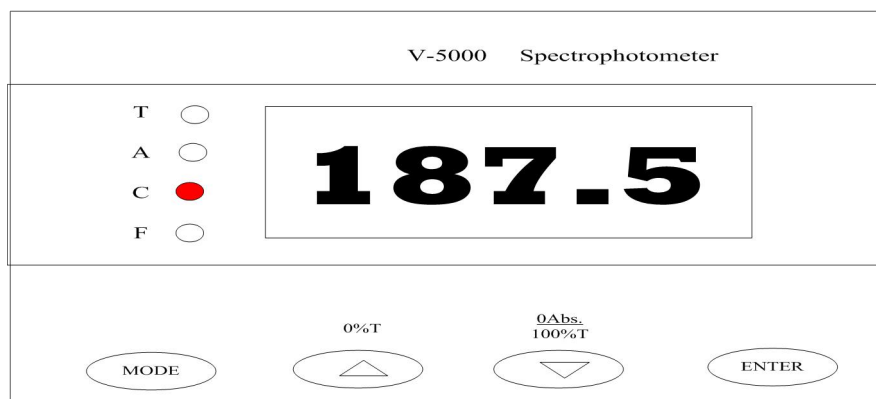

Fig.1-15
- c. Press the **ENTER** key, and the current F value shows 1500 (Fig.1-15). Then C mode automatically appears. Suppose the A value measures 0.125, then the C value reads 187.5.